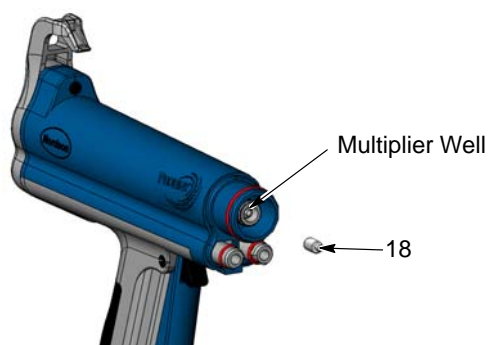

Figure 24 Removing the Contact Spacer
- See Figure 24. Remove the contact spacer (18) from the multiplier well. Wipe the dielectric grease off the contact spacer.
- See Figure 24. Insert the contact spacer into the multiplier well. Fill the multiplier well with dielectric grease.